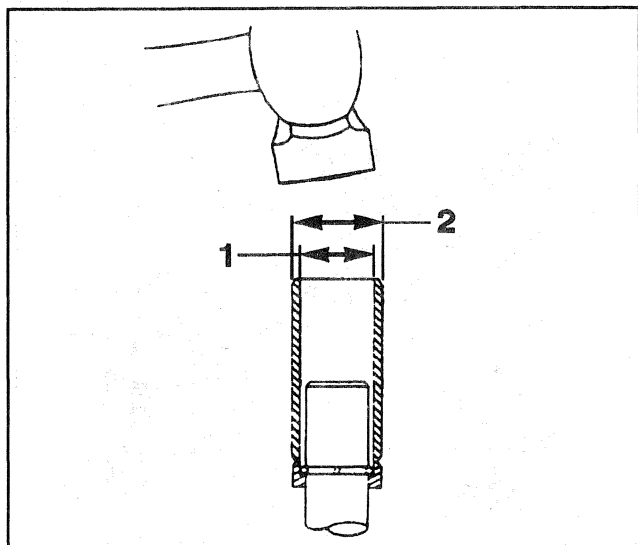

Figure 8—Removing the Pinion Stop
- B. Using an open tube #2 (22 mm diameter) slightly larger than the shaft #1 (14.2 mm diameter), drive the pinion stop toward the clutch drive assembly until it clears the stop rings (Figure 8).